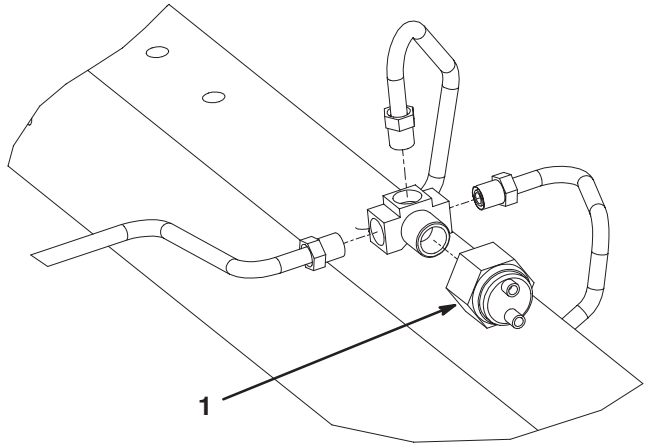

Figure 4
8. Loosen the (2) screws on the brake switch (Fig. 4). The switch is located rear of the brake fluid reservoirs.